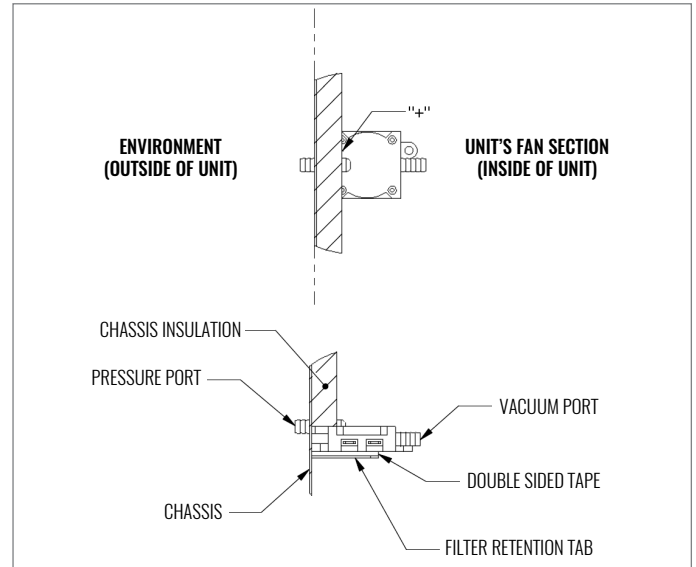

Figure 12b
- Secure differential air pressure switch on the filter retention tab using double sided tape. Position the pressure port (marked with "+") outside the chassis exposed to the environment. The vacuum port should extend inside the chassis and be open to the unit's fan section. (See figure 12b.)